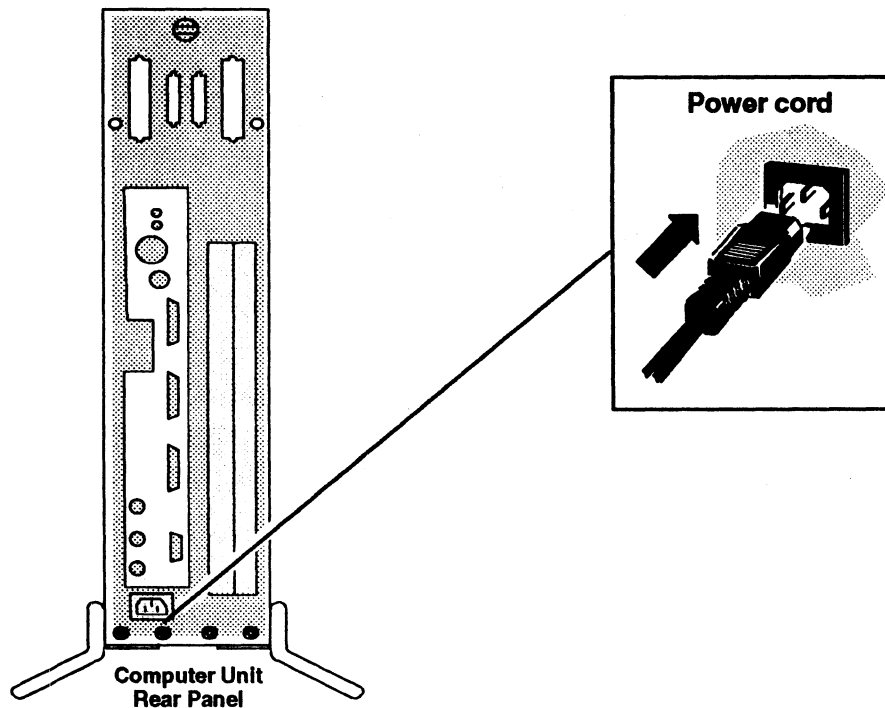

Figure 5-13 Connecting the Computer Unit's Power Cord
6. Plug the power cord into the receptacle on the back of the computer unit as shown in Figure 5-13.